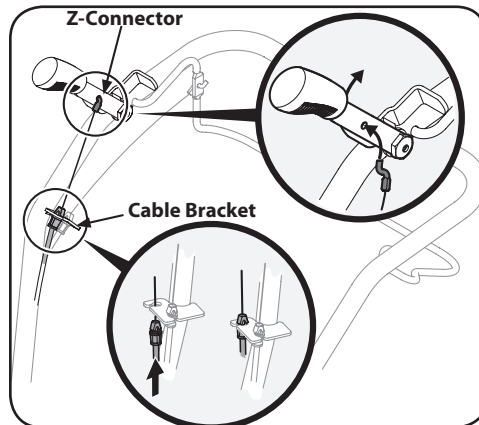

Figure 2-7
- Pull the reverse clutch cable (if equipped) with the red fitting up through the top hole of the cable bracket and push the cable connector up through the hole until the groove in the connector snaps into place. See Figure 2-7.
- Place the Z-connector into the hole in the reverse clutch handle assembly from the inside of the handle to the outside. See Figure 2-7.